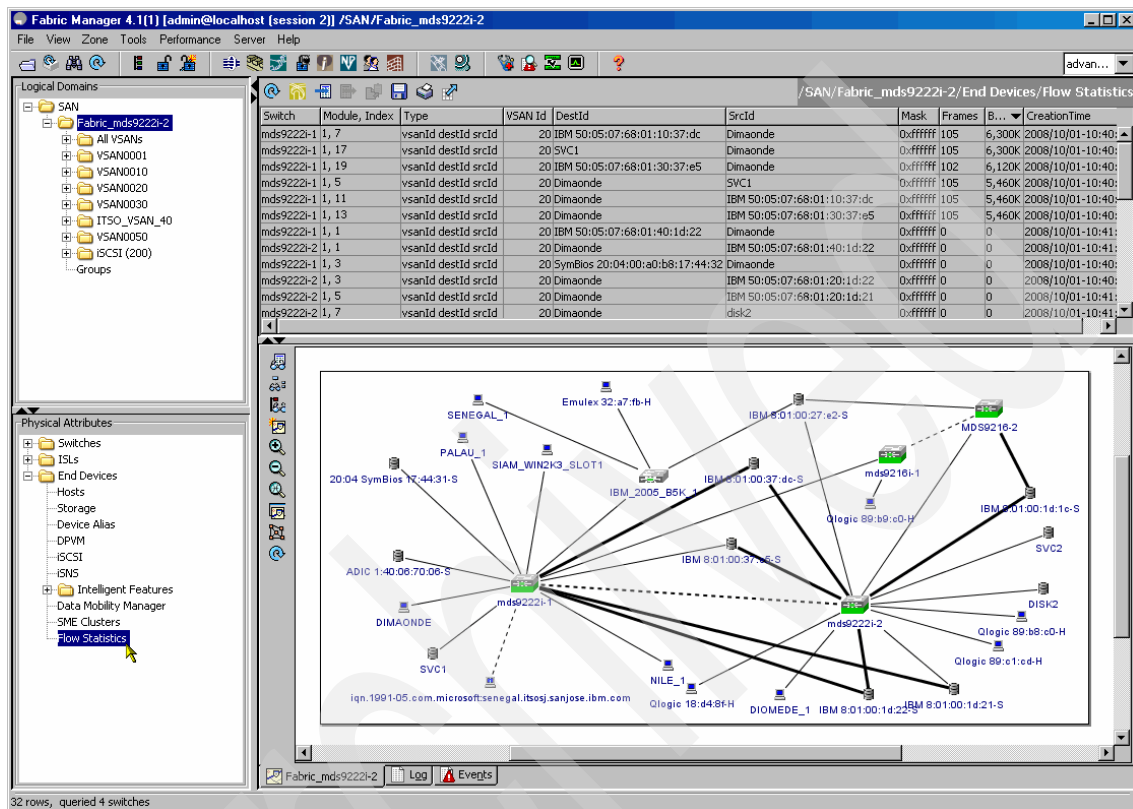

Figure 8-40 Newly created flows in Fabric Manager
- To verify the newly created flows, choose **Physical Attributes** → **End Devices** → **Flow Statistics**, as shown in Figure 8-40. The newly created flows are displayed in the upper right panel.